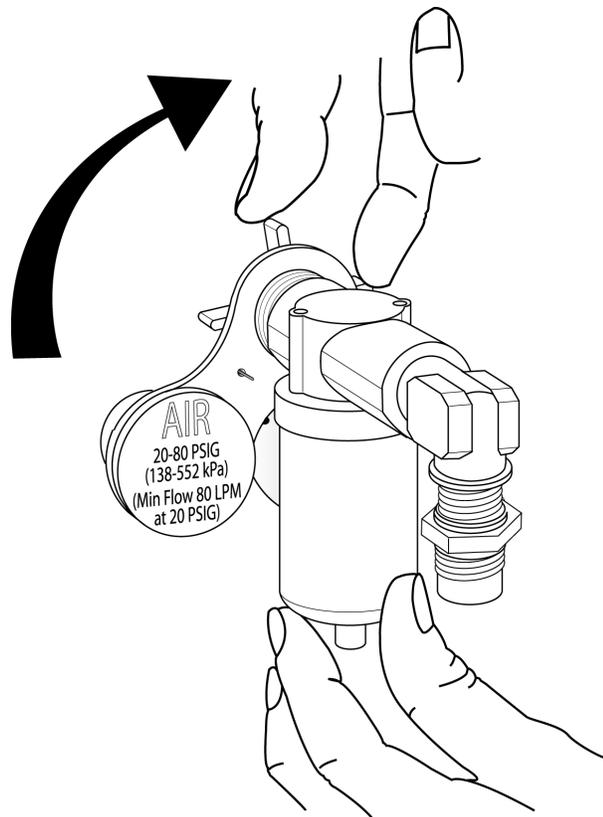

Figure 3.39
1. To remove the Air “smart connector and water trap, support the assembly with one hand and loosen the attachment collar. (Figure 3.39)